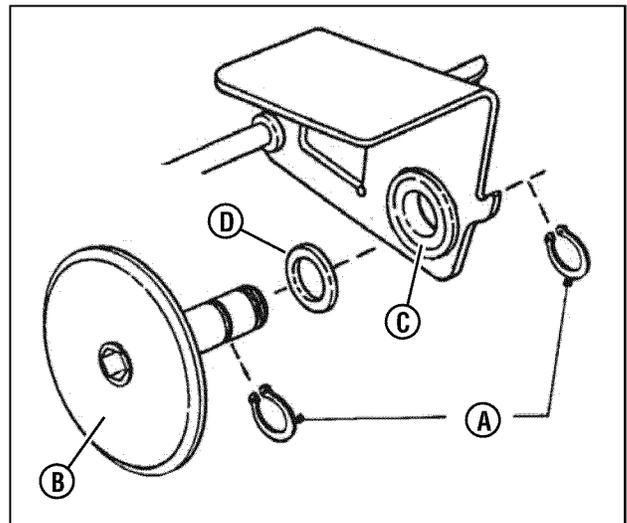

Figure 32: Replacing the driven disc
- Remove the two snap rings (**A**, **Figure 32**) which secure the rubber driven disc (**B**) to the driven disc assembly.
- Remove both snap rings (**A**, **Figure 32**) that secure the rubber driven disc (**B**) to the thrust plate.